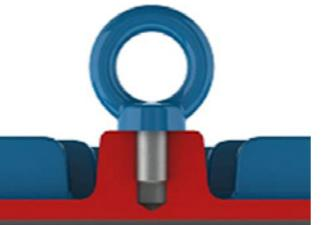
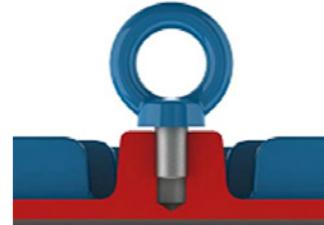

Figure 4.1 – Correct tightening of the eyebolt
Figure 4.2 – Incorrect tightening of the eyebolt.
! Before lifting the motor ensure that all eyebolts are tightened properly and the eyebolt shoulders are in contact with the base to be lifted, as shown in Figure 4.1. Figure 4.2 shows an incorrect tightening of the eyebolt.
1. Ensure that the eyebolts are tightened properly, as shown in Figure 4.1;
1. Ensure that all eyebolts are tightened properly, as shown in Figure 4.1;